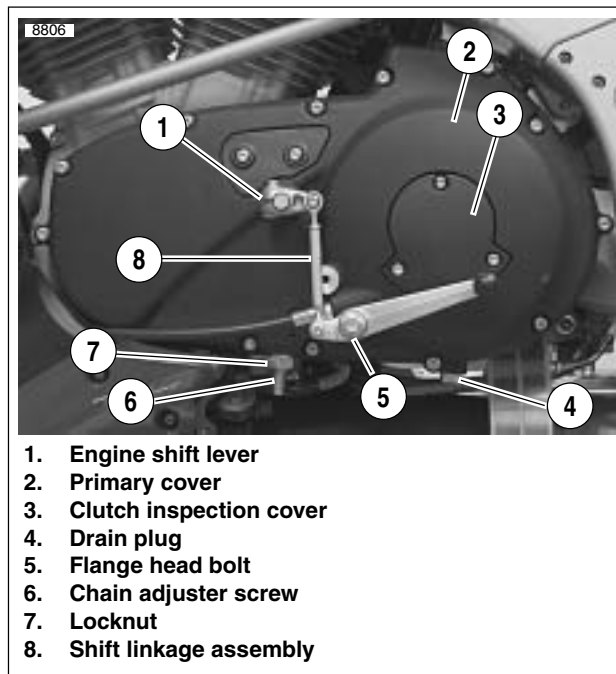

Figure 6-1. Removing Primary Cover
4. See Figure 6-1. Place a drain pan under the engine/primary area. Remove drain plug (4) and drain lubricant from primary drive.
5. Remove engine shift lever assembly (1) and rubber washer. Do not scratch primary cover.
6. Remove flange bolt (5) from primary cover.
8. See Figure 6-1. Loosen locknut (6). Turn chain adjuster screw (5) counterclockwise to remove tension on primary chain.
10. See Figure 6-1. Remove clutch inspection cover (3).